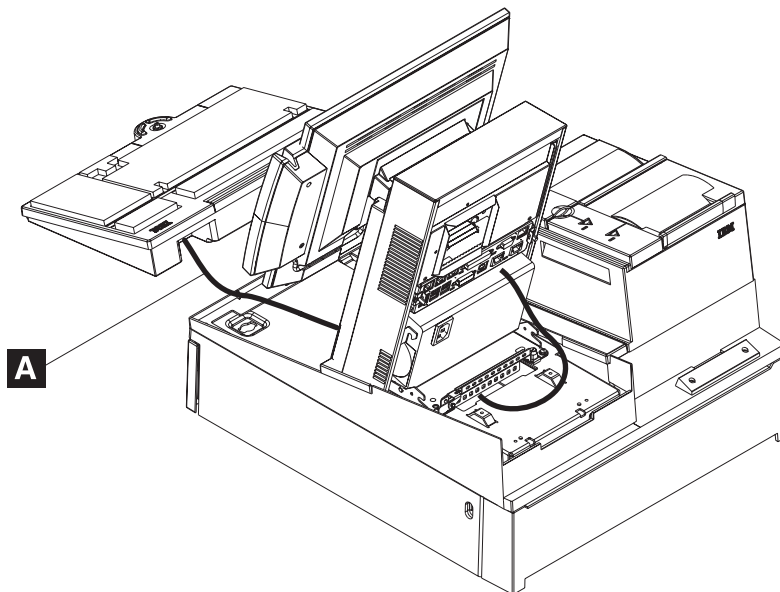

Figure 41. Installing the keyboard onto the integration tray
12. To install the keyboard, perform the following steps. See Figure 41 for callout locations: